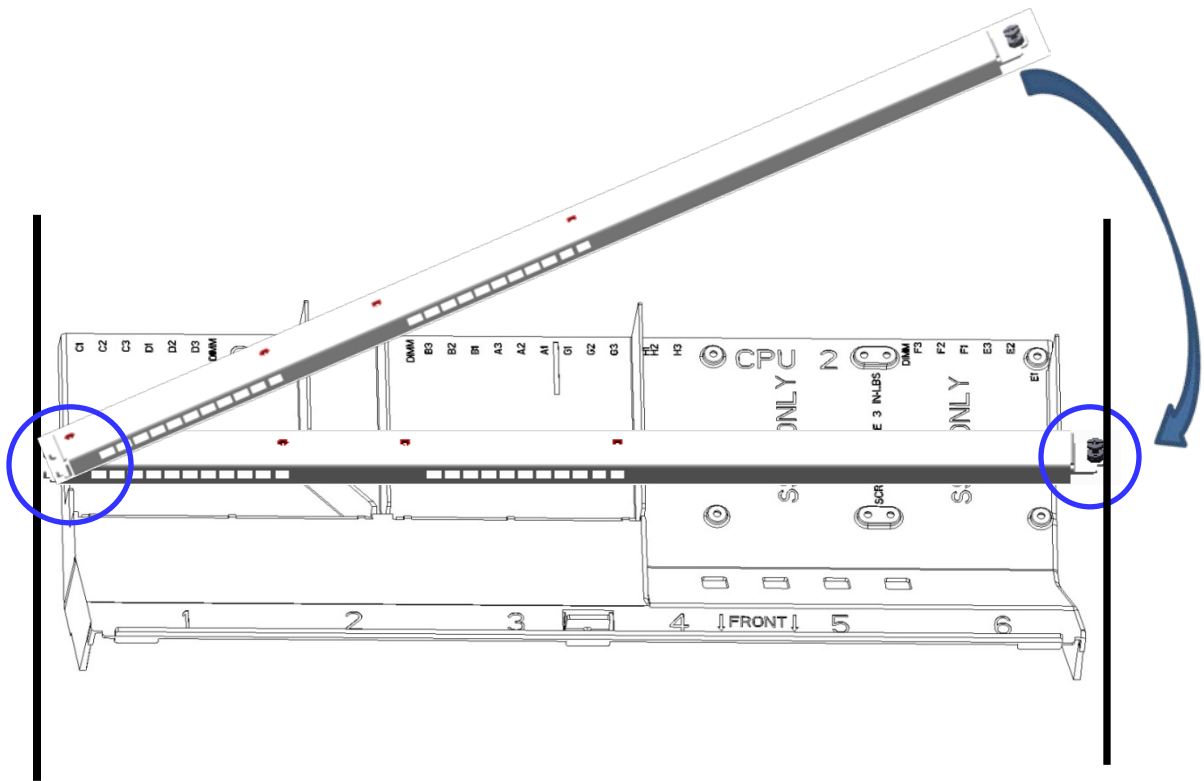

Figure 6. Shipping Bracket Installation
10. Tighten the fastener screw on the right side of the bracket to the threaded receiver hole located on the right chassis wall (see Figure 6 below).